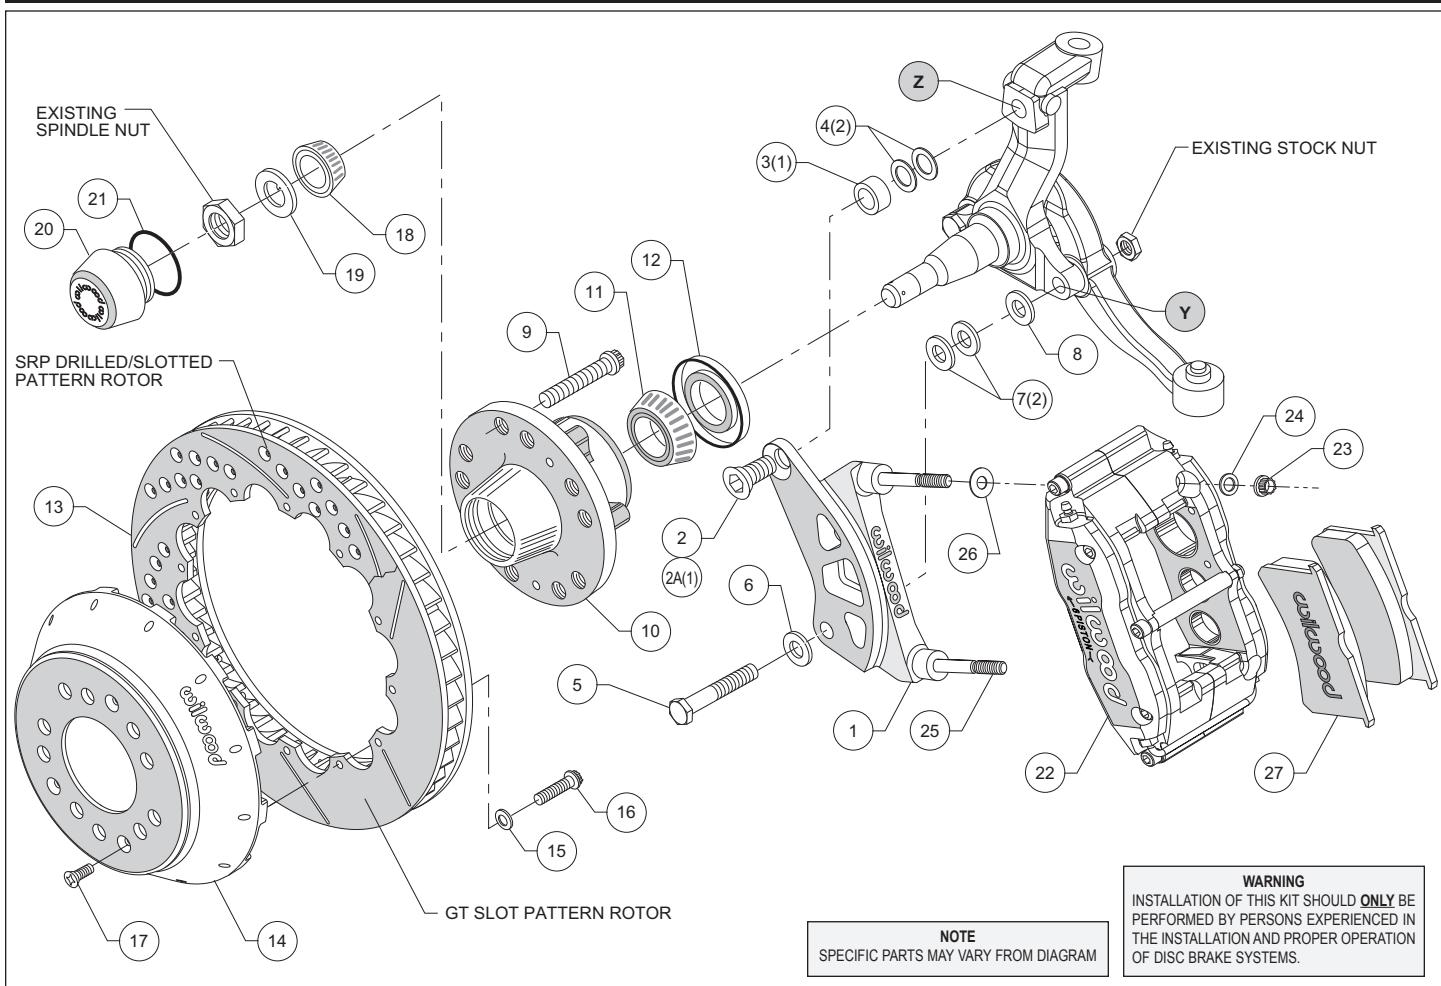

Figure 1. Typical Installation Configuration
- **NOTE:** 1964-66 spindles may require the following modifications (reference figure 1 and 3):